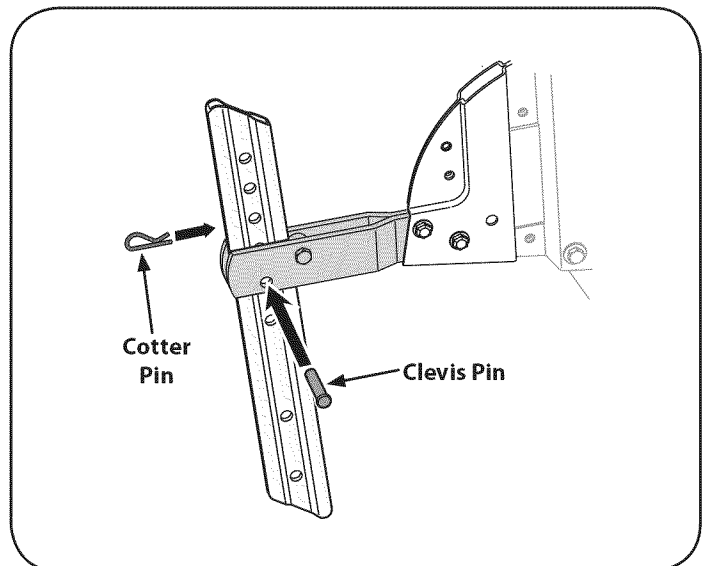

Figure 7
4. Insert the depth stake into the depth gage bracket assembly. See Figure 7.